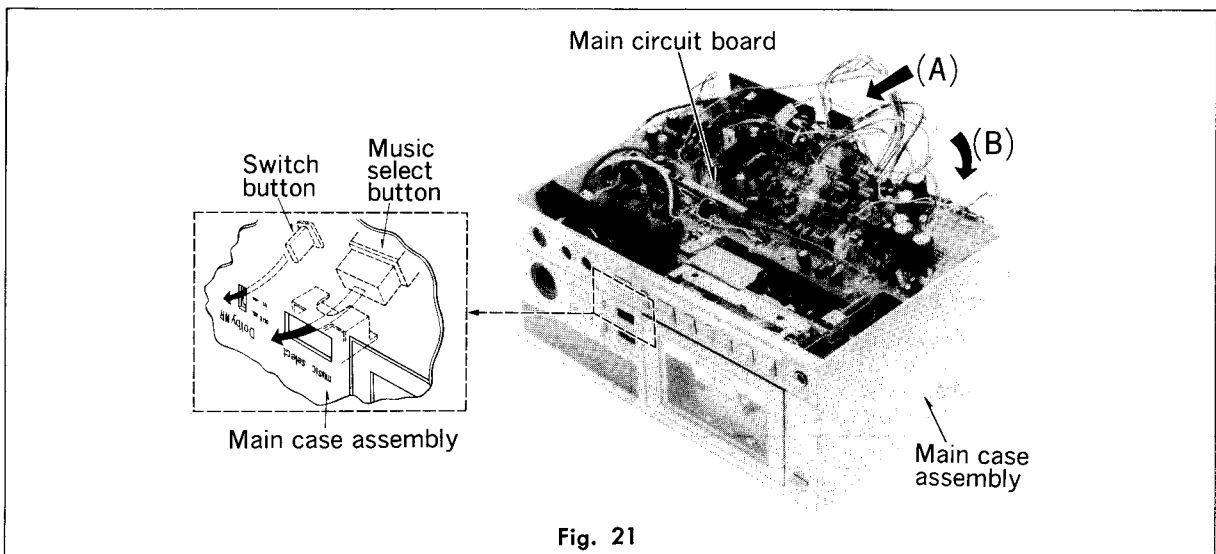

Fig. 21
1. Insert the main circuit board in the direction of the arrow (A) (✓). In this case, the switch button and music select button located on the main circuit board must be in the positions as shown in fig. 21.